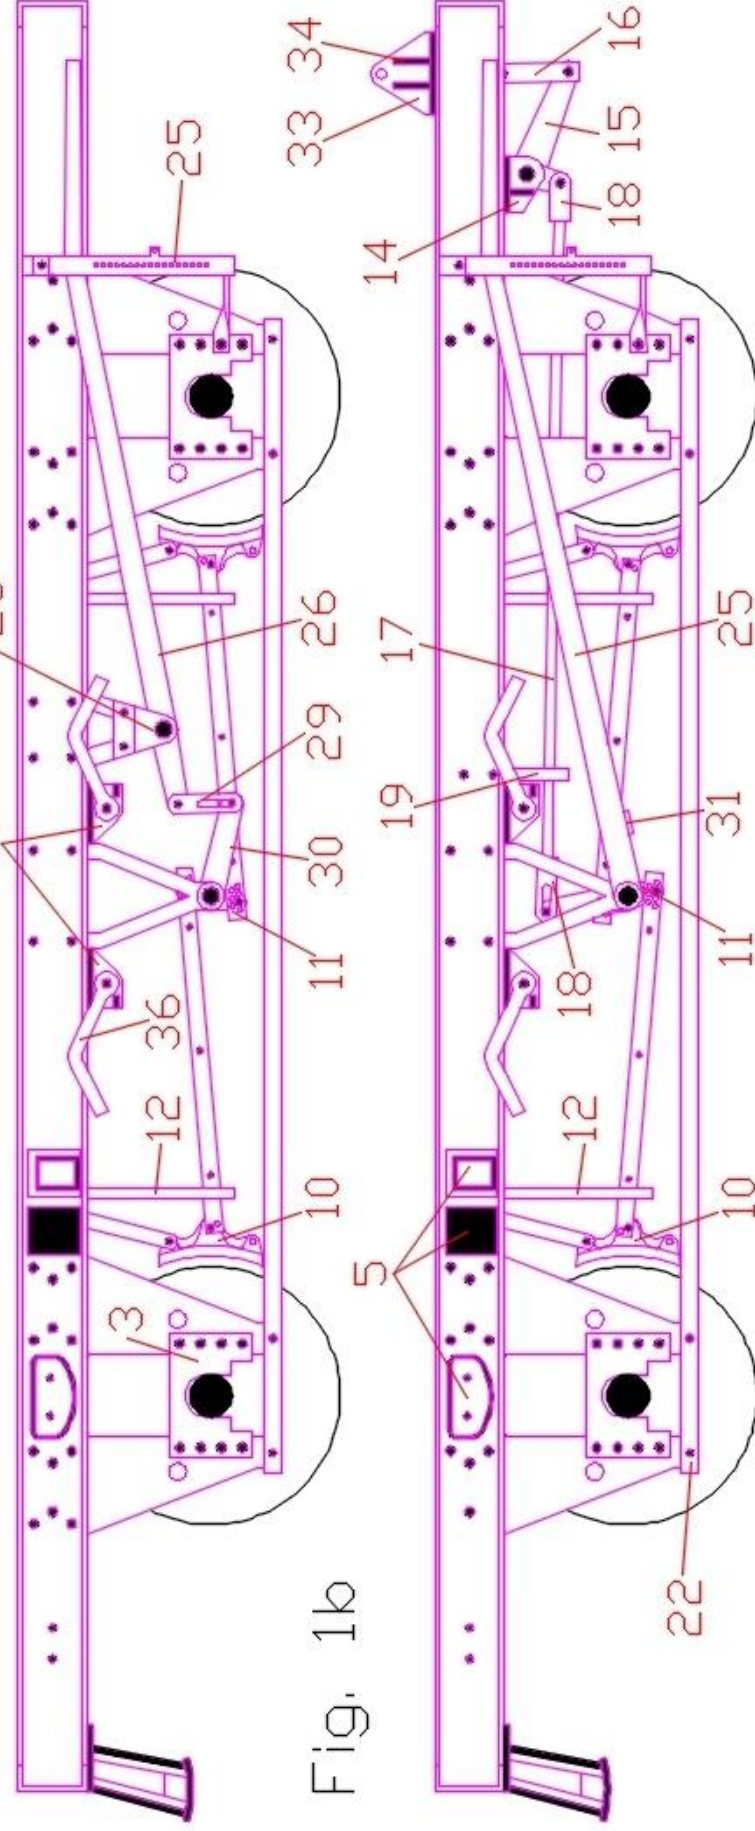

Fig. 1b
There are two tabs on each of the brake shoes that locate into slots in the axleguard/solebar assembly (2). Note that one tab is longer than the other. The longest tab goes towards the inside of the wagon. You will need to angle the locating wings on the axleguard/solebar assembly in order to fit them. Use the longer of the two tabs to locate the brake shoe in place and then return the wing to its original position at 90° to the solebar. Solder in place against the wing and the longitudinal framing. Make sure that the brake shoes go in the correct place. Refer to prototype pictures, Fig.1a or Fig.1b to be sure.